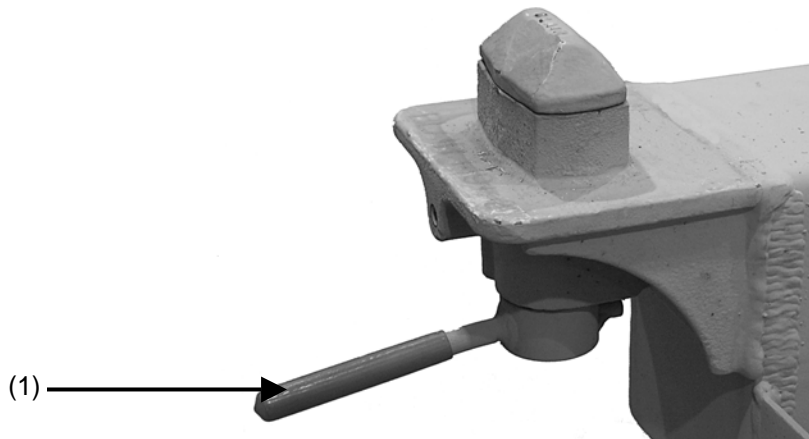

Figure 4-68. Trailer lock.
11. Place container on trailer and secure by rotating handle (1) of trailer lock (located at each corner) 90° (Fig. 4-68).
1. Unlock container from trailer by rotating four lock handles 90° (Fig. 4-68).